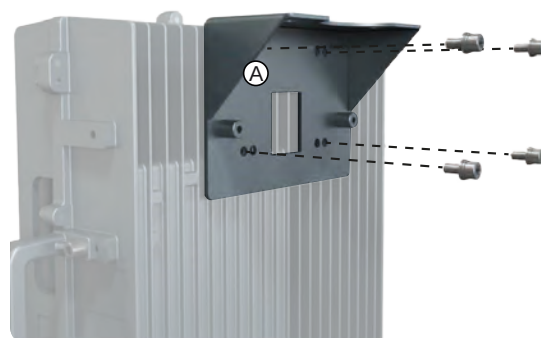

Fig. 20: Attaching bracket ①
2. Attach the mounting bracket ① at the HPRU back, using 4 screws M6×14 and the T5 allen wrench (Fig. 20).